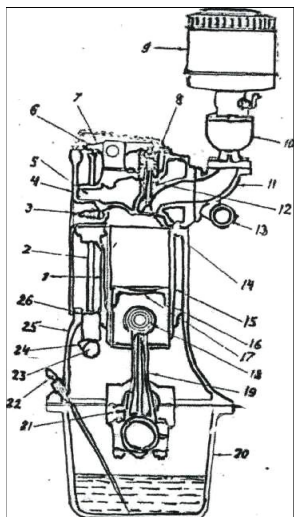

Fig. 1. Basic Engine Nomenclature:
The basic petrol engine parts\* are shown in Fig. 1. The most important parts, particularly for an automotive type engine, are: a cast-iron cylinder block (1) to hold the cylinders in a fixed position: a cast-iron or aluminum cylinder head (4) which is the covering for the combustion chamber: a cast-iron crankcase (25) which is usually formed with the cylinder block which, as its name implies, is a structure for holding the crankshaft; a pressed-steel oil pan (20) for sealing the bearings from dirt and holding the oil for lubrication; a forged-steel crankshaft (21) to transform the reciprocating motion of the piston to rotary motion of the drive shaft; a forged-steel connecting rod (19) to join the piston and the crankshaft; a cast-iron or aluminum piston (17) to receive the power impulse and to seal the cylinder so as to prevent the gases from escaping; a spark plug (3) to ignite the mixture of gasoline and air; an inlet valve (14) to admit the mixture and an exhaust valve to discharge the exhaust of burnt gases after the power stroke; valve spring (8) to control the motion of the valves; tappets (26) to take the thrust and eccentric loading imposed by the cams (24) of the camshaft (23). The camshaft is driven at one-half of the crankshaft speed by timing gears (not shown). The intake manifold (11) is a passageway leading to the inlet valves. At the beginning of this manifold there is a carburetor (10), which feeds the liquid fuel into the manifold air stream where it is partially vaporized. The exhaust manifold (13) similarly is the pipe or passageway leading from the exhaust valves to the atmosphere. Other parts are named in the illustration.